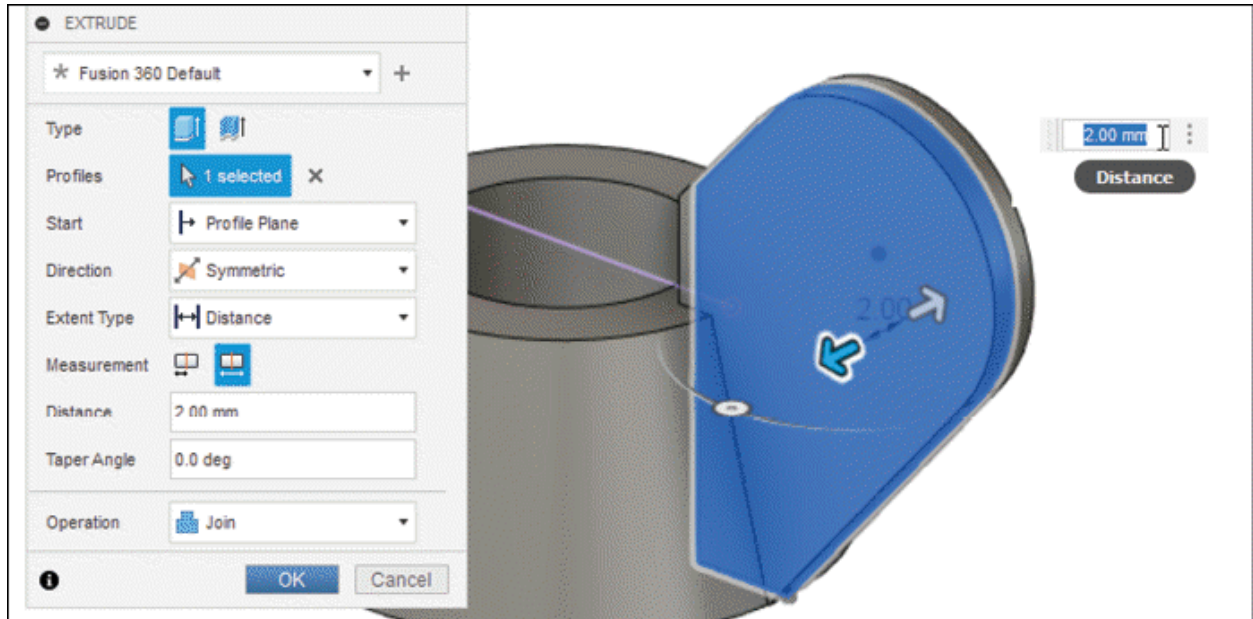

Figure-106. Creating wing for nut
- Extrude this new sketch to both sides symmetrically by total thickness of **2**; refer to Figure-106.